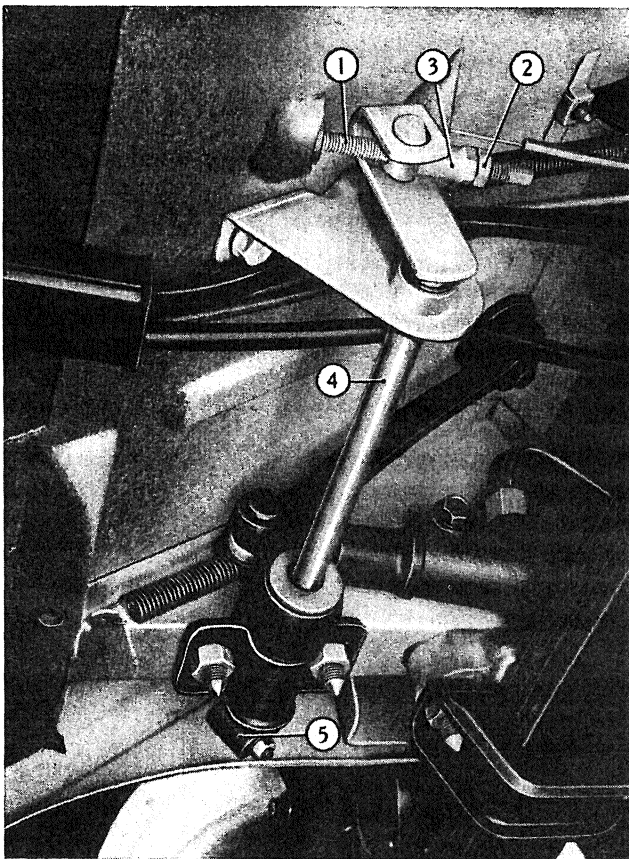

Fig. 198 - Clutch front throwout control.
- Unscrew locknut (2, fig. 198) and then screw in or back out stretcher (3, fig. 198) of clutch control tie rod, according to whether pedal free travel must be reduced or increased.
- Check the pedal travel obtained, tighten locknut (2), and re-install front apron.